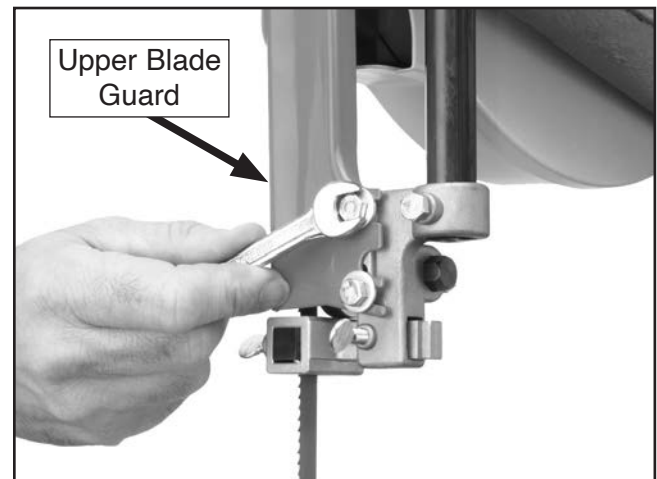

Figure 19. Installing upper blade guard.
2. Attach the upper guard to the upper guide assembly with (2) M6-1 x 10 hex nuts and 6mm flat washers, as shown in **Figure 19**.